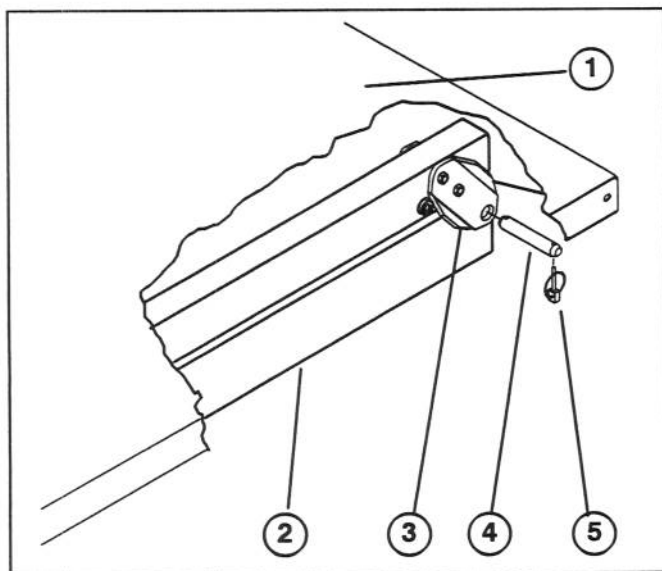

Figure 8
3. Carefully set bed onto vehicle frame aligning rear bed pivot plate holes with holes in rear frame channel (Fig. 8).
4. Secure each set of pivot plates to frame channels with a clevis pin and (2) lynch pins (Fig. 8). Tighten pivot plate mounting capscrews if previously loosened.